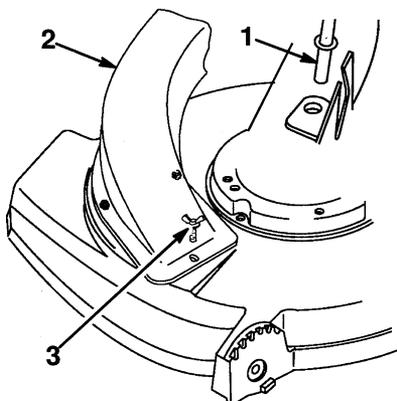

Figure 40
- Insert chute support rod through hole in right side of deck (Fig. 40).